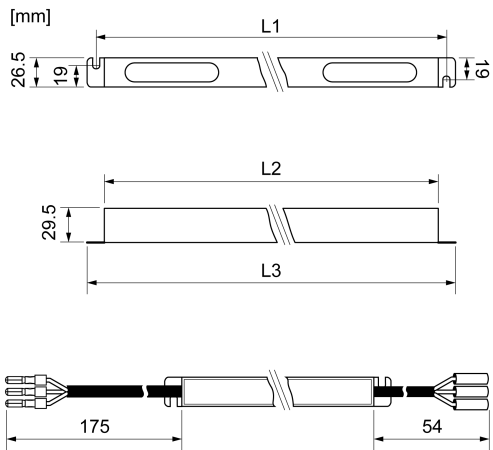

Figure 4: Dimensioned drawing
- Prepare boreholes in the groove for the fastening of the luminaires. Observe dimensioned drawing for the distance of the boreholes (Figure 4).